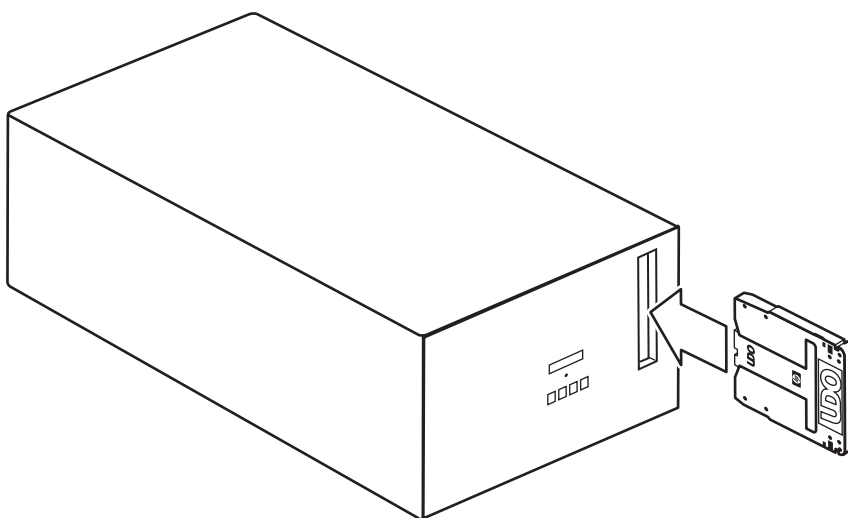

Figure 5: Loading media
2. Load UDO media into the drive by inserting the disk gently but firmly into the mailslot, shutter end first, and with the side you want to access facing to the right of the jukebox (A or B). See Figure 5.